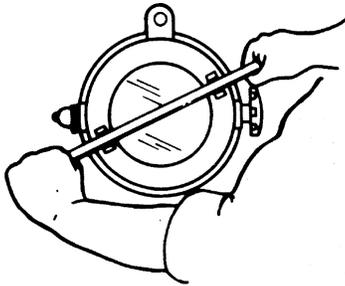

Figure 2A
Refer to Figures 2A and 2B:
1. Remove pin from hole “A” in boss of the shell (Figure 2A).